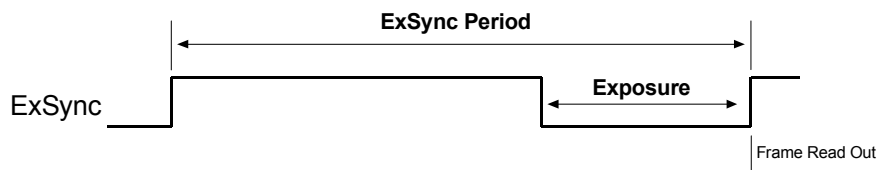

Figure 3-3: ExSync, Level-controlled Mode
- In **ExSync, level-controlled** mode, the exposure time is determined by the time between the falling edge of ExSync and the next rising edge. The pixels are exposed and charge is accumulated only when ExSync is low. The frame is read out and transferred on the rising edge of the ExSync signal (see Figure 3-3).